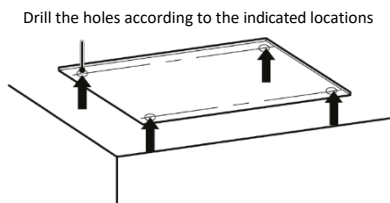
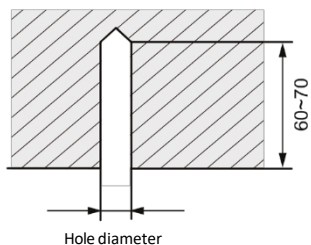

Fig. 2
Fig. 3
- (1) Tape the template to the installation location; drill 4 holes according to the hole positions on the template, as shown in Fig. 2; the hole diameter depends on the diameter of the expansion bolt, and the depth should be 60 to 70 mm, as shown in Fig. 3.